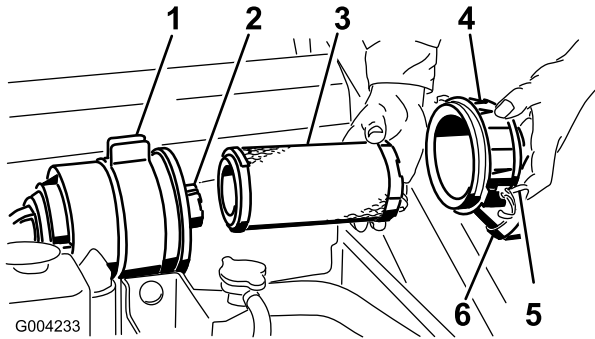

Figure 32
3. Release the latches on the air cleaner and pull the air cleaner cover off of the air cleaner body (Figure 32).
6. Gently slide the primary filter out of the air cleaner body (Figure 32). Avoid knocking the filter into the side of the body.
9. If you are replacing the safety filter, carefully slide the new filter into the filter body (Figure 32).
10. Carefully slide the primary filter over the safety filter (Figure 32). Ensure that it is fully seated by pushing on the outer rim of the filter while installing it.
11. Install the air cleaner cover with the side indicated as UP facing up and secure the latches (Figure 32).